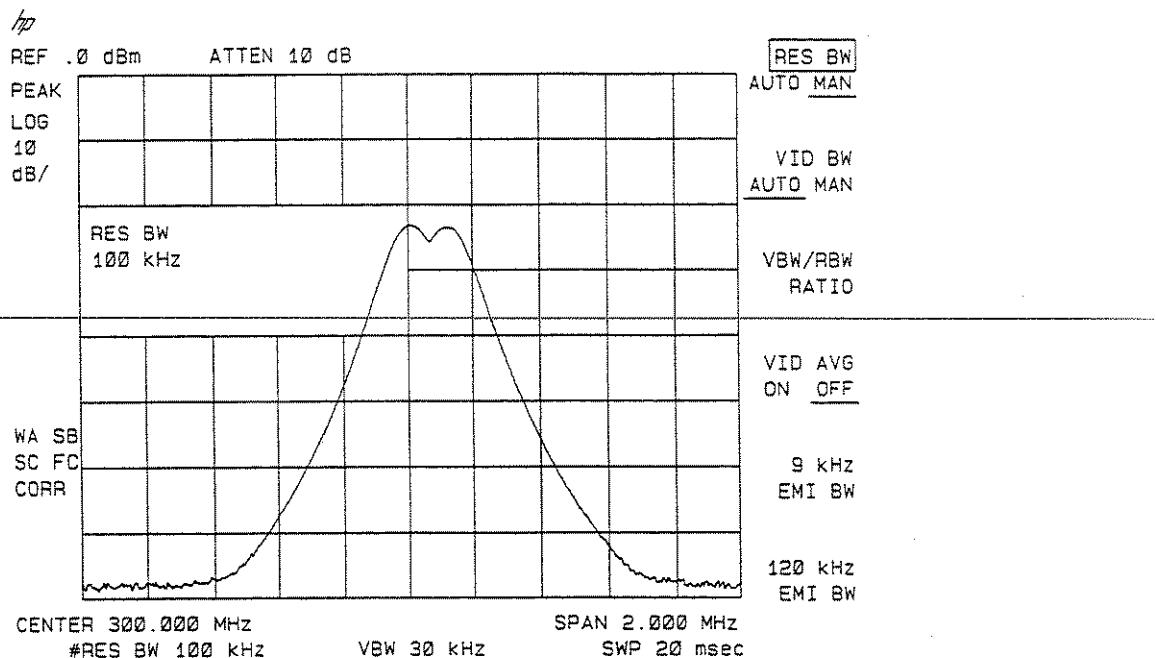

Figure 2-2. Resolving Signals of Equal Amplitude
Generally, to resolve two signals of equal amplitude, the resolution bandwidth must be less than or equal to the frequency separation of the two signals. A dip of approximately 3 dB is seen between the peaks of the two equal signals, and it is clear that more than one signal is present. See Figure 2-2.
4. Since the resolution bandwidth must be less than or equal to the frequency separation of the two signals, a resolution bandwidth of 100 kHz must be used. Change the resolution bandwidth to 100 kHz by pressing [BW] 100 [kHz]. Two signals are now visible as in Figure 2-2. Use the knob or step keys to further reduce the resolution bandwidth and better resolve the signals.